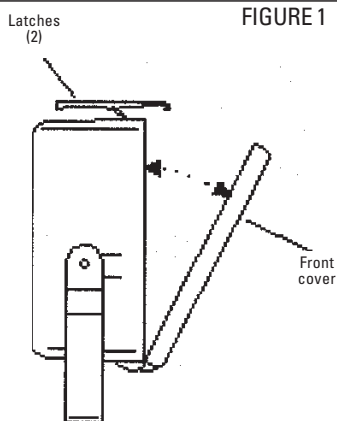

FIGURE 1
1. Open door frame by lifting rear of each latch assembly and hinging forward. Allow captive front cover to hinge down. **NOTE:** If "TP" (tamperproof screws) option has been ordered, remove two tamperproof (TP) screws before attempting to unlatch door frame. (FIGURE 1).